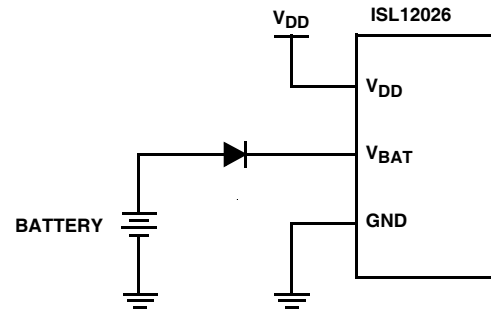

FIGURE 2. PROTECTION CIRCUIT WITH AN EXTERNAL DIODE)
series resistors should fail. Figure 2 shows the actual circuit with the external protection diode. (Note that a high value series resistor would provide similar protection, but would limit normal operating range.)
- A) Intersil devices that require one diode in series (Figure 2 on page 1) with the  $V_{\text{BAT}}$  pin for UL requirements: ISL1208, ISL1209, ISL1218, ISL1219, ISL1220, ISL1221, ISL12020, ISL12020M, ISL12022, ISL12022M, ISL12024, ISL12025, ISL12026, ISL12027, ISL12028, ISL12029.